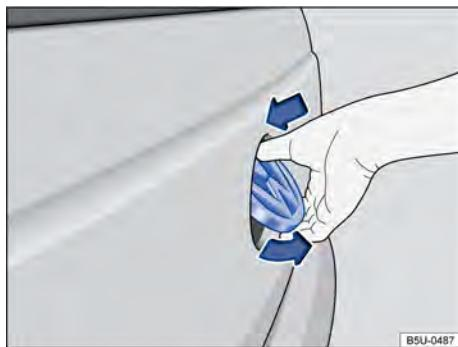

Fig. 47 Open the bed cover.
- Press the upper part of the Volkswagen logo with your thumb → Fig. 47 and insert your other fingers in the lower part of the logo, pulling it out. The dropside will unlock and positioned in place by the gas spring. Pull it down to open.